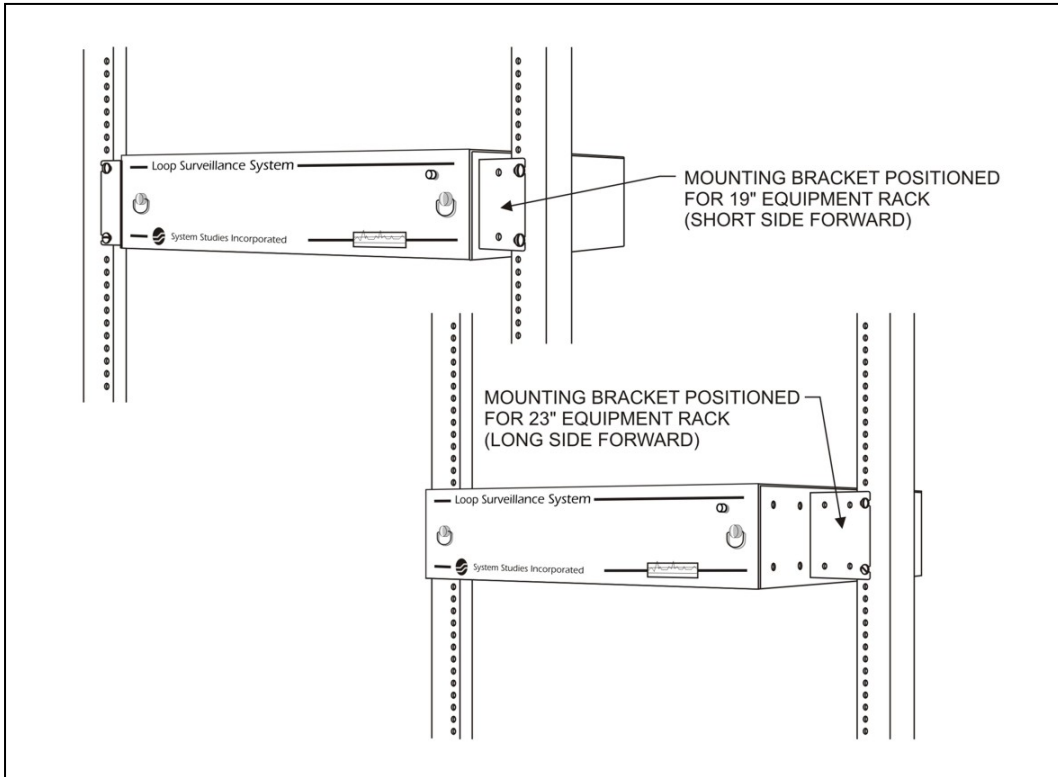

FIGURE 3-1: 289H-M WITH MOUNTING BRACKETS
1. Using the screws provided, attach the mounting brackets to the 289H-M chassis. Depending how the brackets are positioned on the 289H-M, the unit can be installed in either a 19 or 23 inch equipment rack. It can also be mounted flush with the front of the rack or slightly forward. When installing the 289H-M in a 19 inch rack, the long side of the bracket is screwed to the monitor and the short side attaches to the rack. For the 23 inch rack, the bracket is reversed, with the short side screwed to the monitor and the long side attaching to the rack. FIGURE 3-1 illustrates these possible mounting positions. Using the screws provided, install the 289H chassis in the designated equipment rack. (It is recommended that two technicians secure the chassis in place, due to its size and weight.)